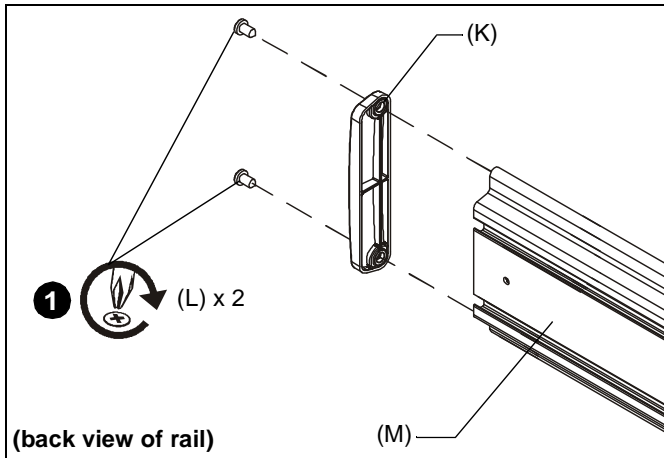

Figure 5
1. Attach one end cap (K) with two 1/4-20 x 1/2" Phillips head screws (L) to end of mounting rail (M). (See Figure 5)